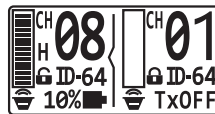

Fig. 30
2. TxOFF is shown when transmitter is powered off. Fig. 30